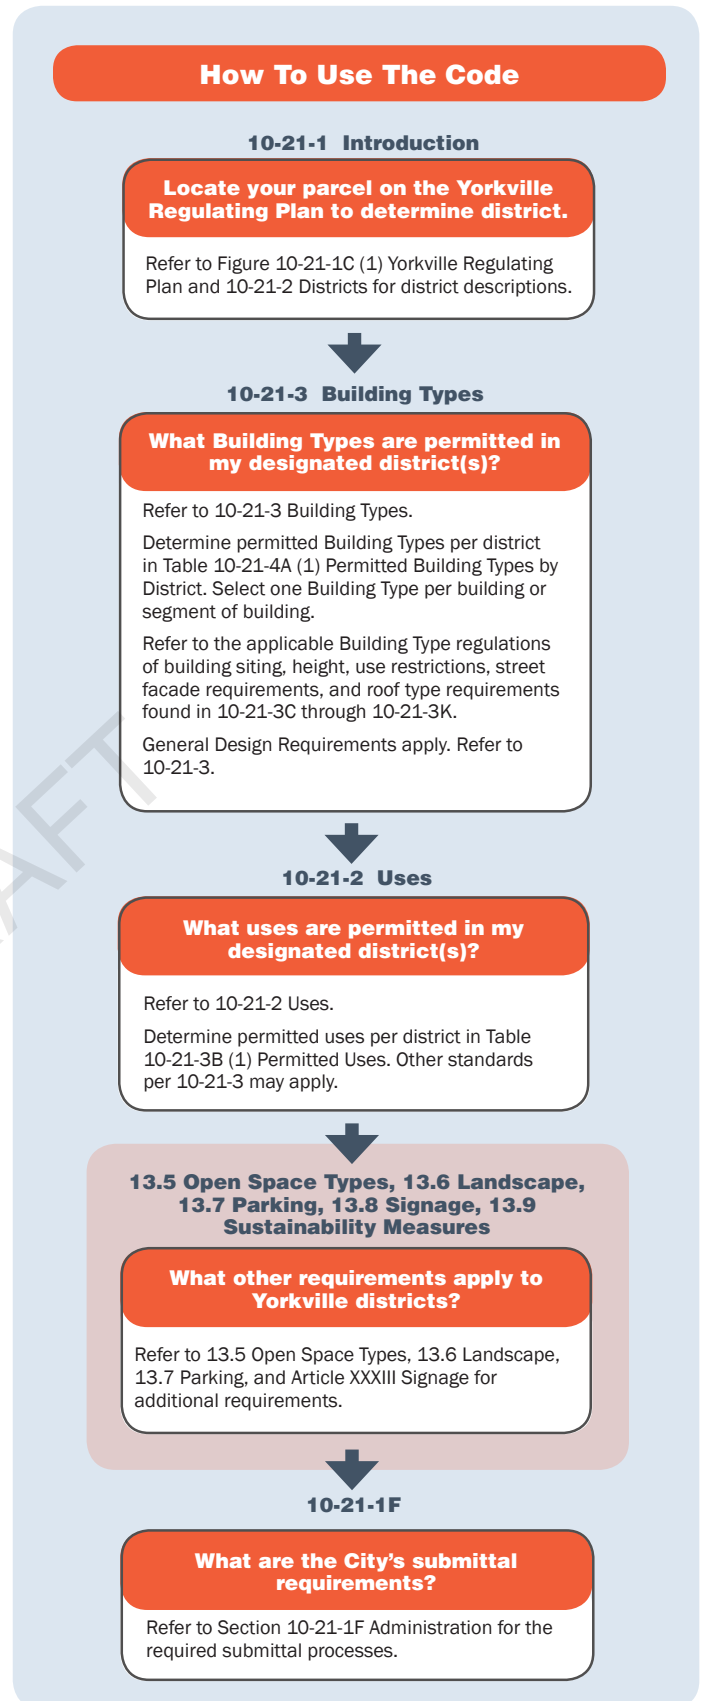

Figure 10-21-1D (1). Yorkville Code Flow Chart.
Refer to Figure 10-21-1D (1) Yorkville Code Flow Chart for a step by step illustration about applying the code to a parcel. Throughout the Yorkville